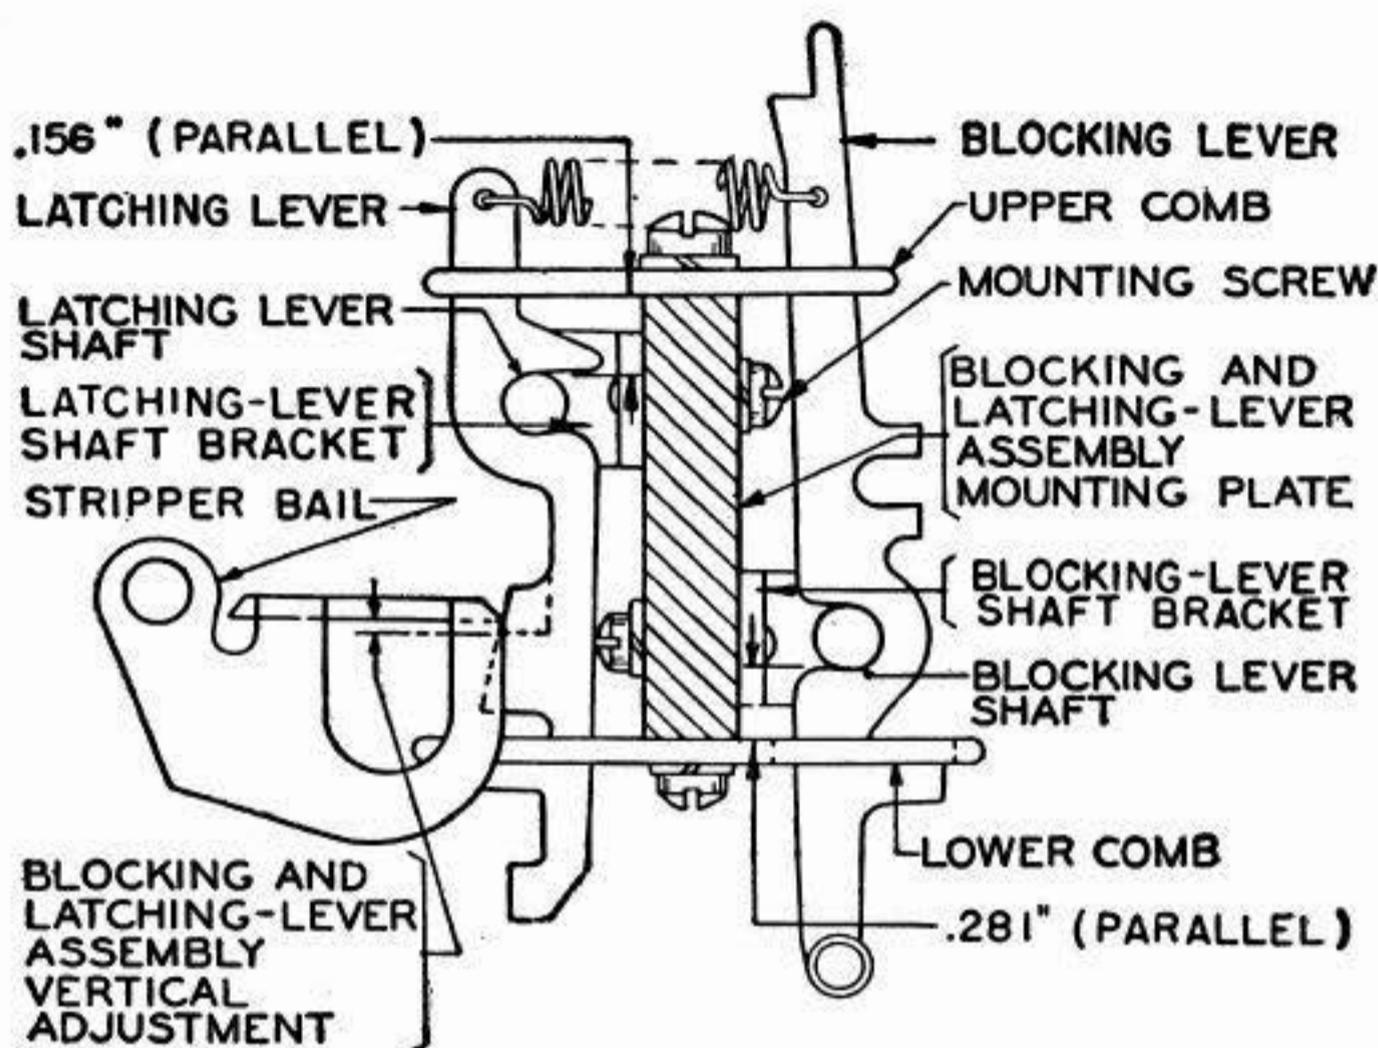

Fig 12
3.20 **Blocking and Latching-Lever Shafts:** With both the lower and upper combs secured in their positions, the blocking-lever shaft and the latching-lever shaft should be parallel to each other within .010". **Fig 12**